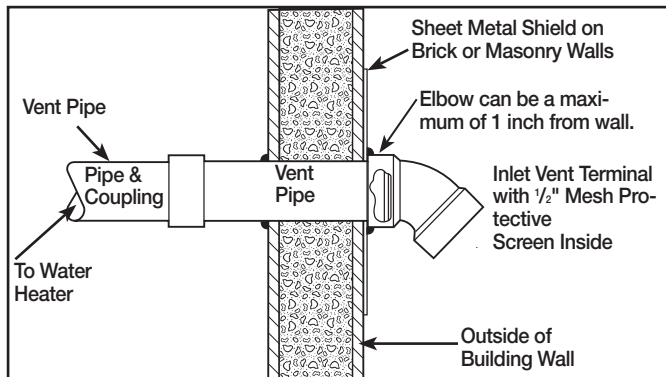

Figure 5 – Typical Horizontal Vent Installation
3. **DO NOT** terminate vent pipe directly on brick or masonry surfaces. Use a rust-resistant sheet metal backing plate behind vent. (See Figure 5.)
5. Caulk all cracks, seams and joints within six (6) (1.83 m) feet of vent terminal.
**HORIZONTAL VENT INSTALLATION** – Once the vent terminal location has been determined, make a hole through the exterior wall to accommodate the vent pipe. Vent pipe must exit exterior wall horizontally only (See Figure 5).
Insert a small length of vent pipe through the wall and connect the coupling as shown in Figure 5. Connect terminal as shown to the vent pipe on the exterior of the building. Seal any opening around the vent pipe or fittings with mortar or silicone caulk as shown in Figure 5.